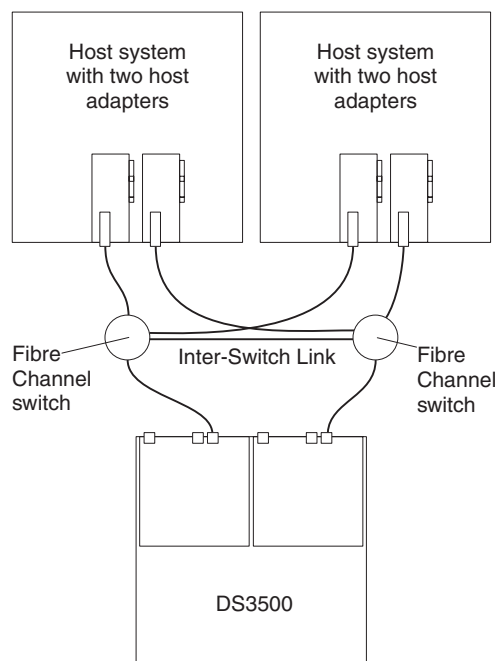

Figure 61. Example of a single Fibre Channel SAN fabric configuration
- Single SAN fabric configuration, as shown in Figure 61 on page 69
In Figure 61 on page 69, the Fibre Channel switches are connected together through the Inter-Switch Link (ISL) to form a single SAN fabric.